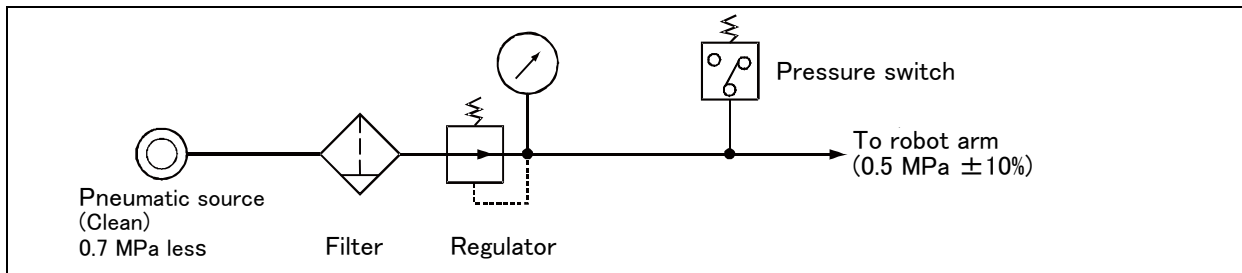

Fig.2-26 : Air supply circuit example for the hand
Fig. 2-26 shows an example of the pneumatic circuit of air supply for the hand.
- (1) Make sure that a surge voltage protection circuit such as a diode is connected to the solenoid coil in parallel.
- (2) When the factory pneumatic pressure drops, as a result of the hand clamp strength weakening, there can be damage to the work. To prevent it, install a pressure switch to the source of the air as shown in Fig. 2-26 and use the circuit described so that the robot stops when pressure drops. Use a hand with a spring-pressure clamp, or a mechanical lock-type hand, that can be used in cases where the pressure switch becomes damaged.
- (3) If the air supply temperature (primary piping) used for the tool etc. is lower than ambient air temperature, the dew condensation may occur on the coupling or the hose surface.